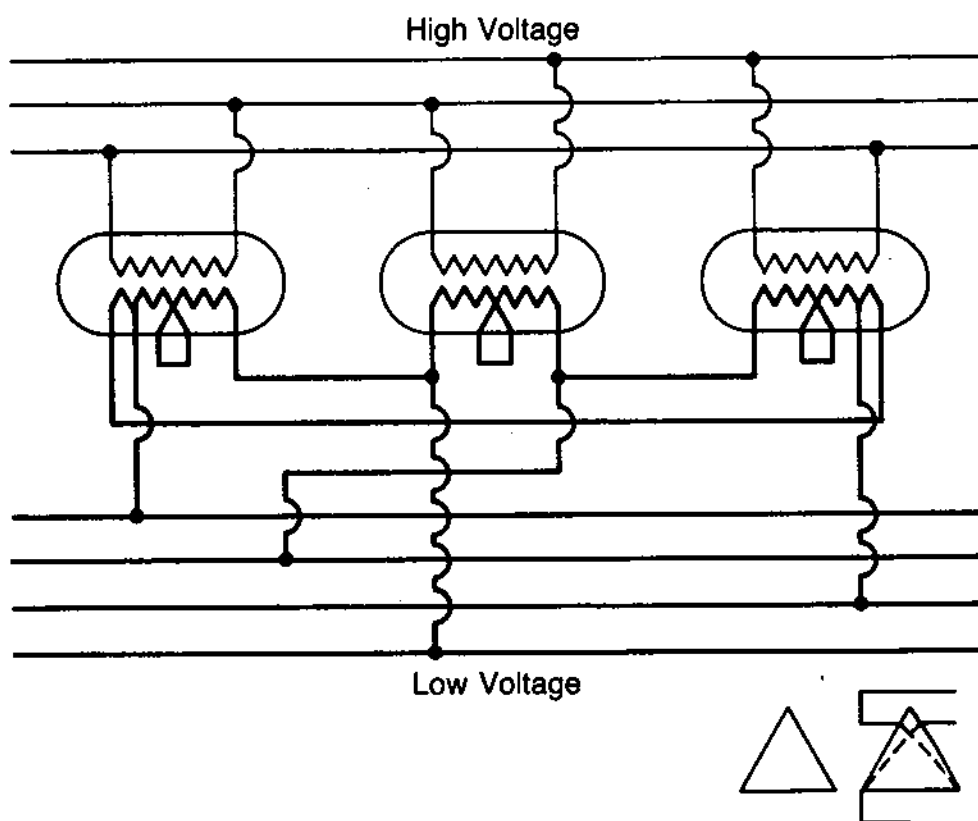
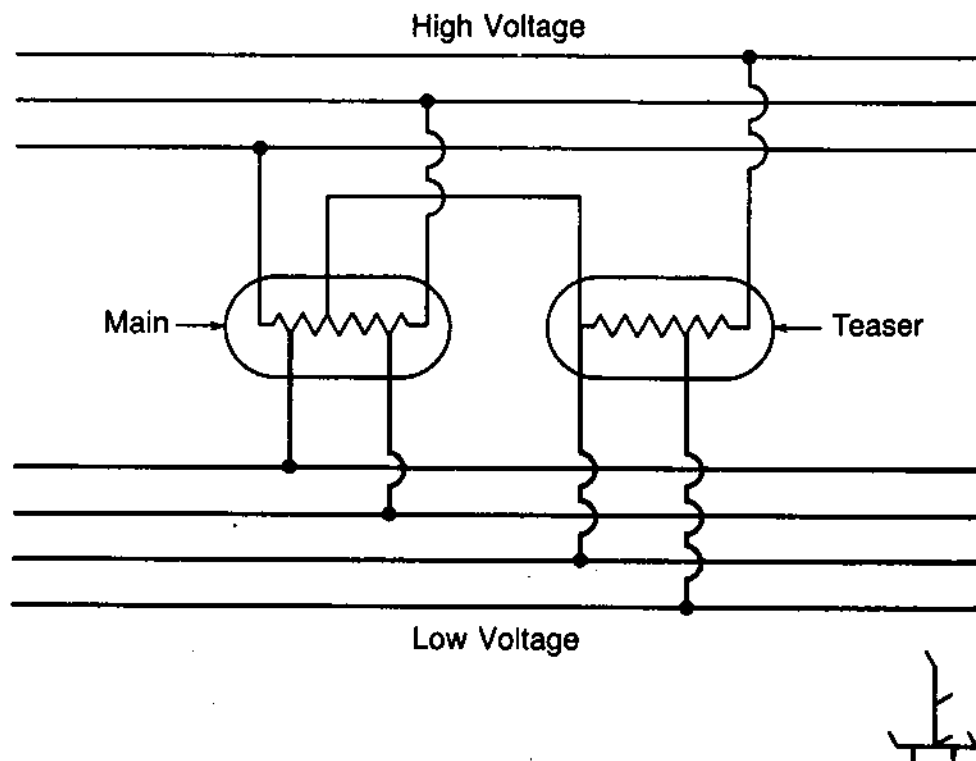

Fig. 44 – Phase Transformation, Fortesque Connection
Fig. 45 – Three-Phase to Two-Phase, Four-Wire by Autotransformers
Refer to Figure 44. This is a transformation from three-phase to two-phase by the use of three transformers, one standard and two with special taps on the low-voltage side. One advantage of this connection is that both two- and three-phase current may be delivered at the same time.
j. *Autotransformers for Phase Transformation, three-phase to two-phase, four-wire.* See Figure 45. This connection is the same as the one shown in Figure 44 except that the winding on the two-phase side are not connected together at their mid-point.